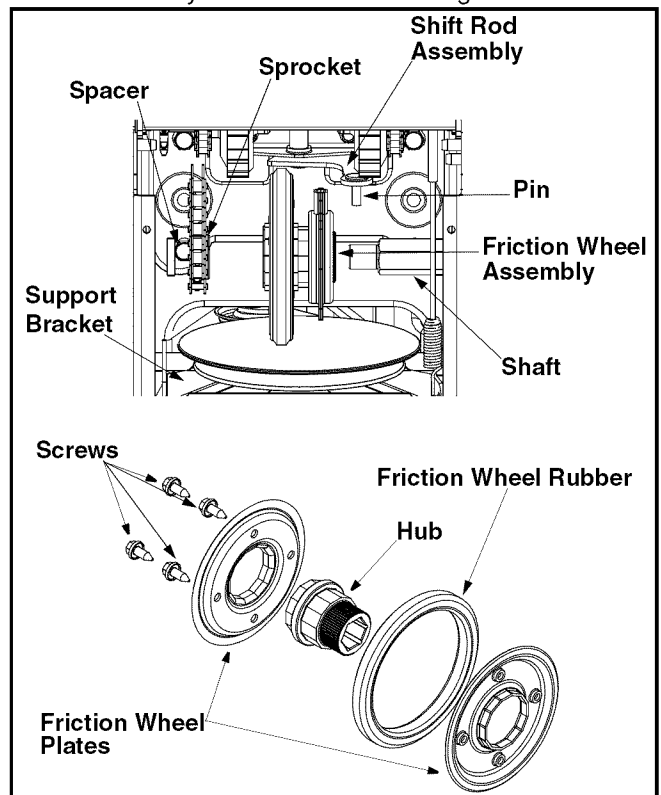

Figure 20
Move the gear shaft to the right and slide the friction wheel assembly from the shaft. See Figure 20.
- Remove the four screws from the friction wheel assembly. See Figure 20.